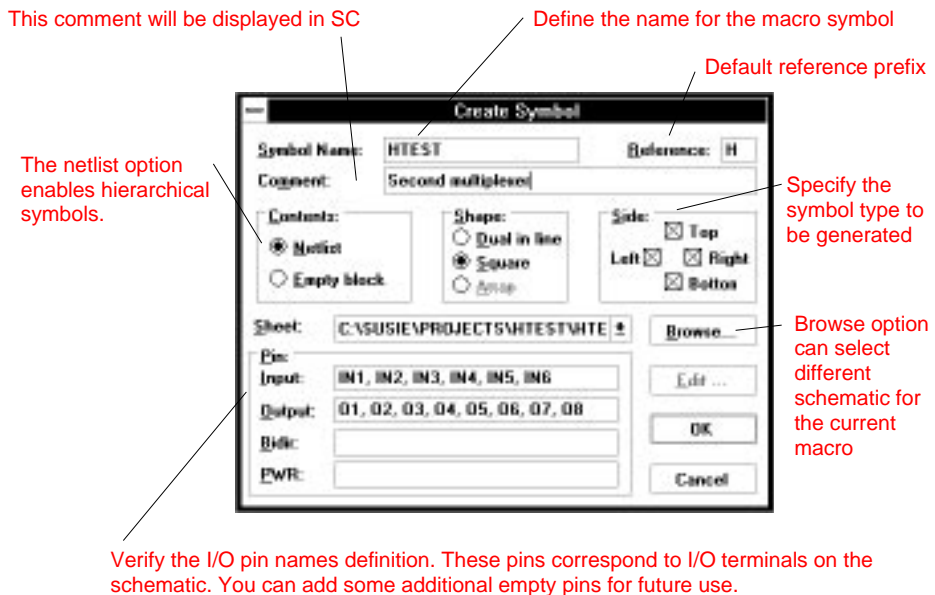

Figure 4-6. Create Hierarchical Macro option.
4. In the **Create Symbol** window (fig. 4-6) do the following: